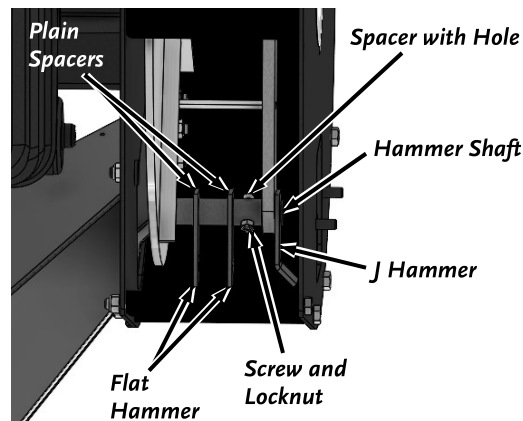
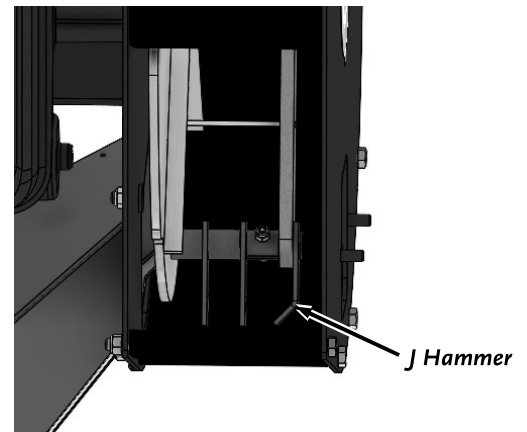

Figure 21
Figure 22
3. Align one of the Hammer Shafts with the Access Hole (**Figure 21**). Carefully note the orientation of each Hammer on the Hammer Shaft you are working on.
6. Reinstall the parts, but with the orientation of the Hammers flipped to a clean cutting edge. If your Hammer Shaft assembly looked like **Figure 21** before then it should look like **Figure 22** after. Or vice versa.
8. Repeat steps 3 through 7 for the other three sets of Hammers. Confirm that Hammer orientations alternate as shown in Figure 21. Correct them if needed.